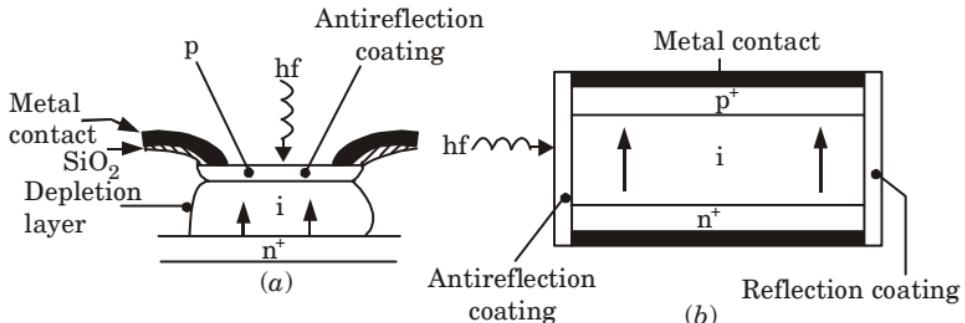

Fig. 4.9.2. (a) Structure of a front illuminated silicon *p-i-n* photodiode
3. Fig. 4.9.2 shows the structure of two types of silicon *p-i-n* photodiode for operation in the shorter wavelength band below 1.09 μm .